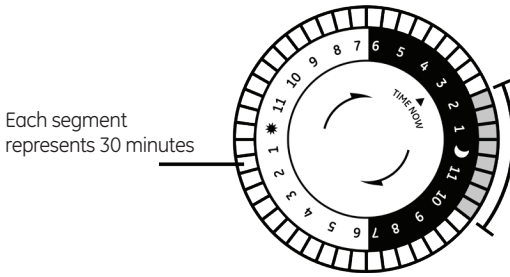

FIG 5
- The segments around the outer edge of the timer's dial represent 30 minutes and can be pushed down using your finger or the tip of a pencil. Segments can be easily pulled up by hand. Up position = OFF, down position = ON. Then, push down ALL the segments that fall on or within that period. [FIG 5]